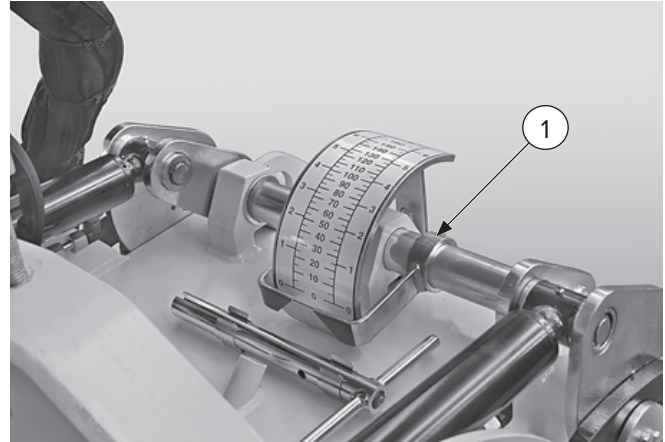

Figure 9
5. Loosen the nuts [Figure 9, Item 1] on both depth cylinders.